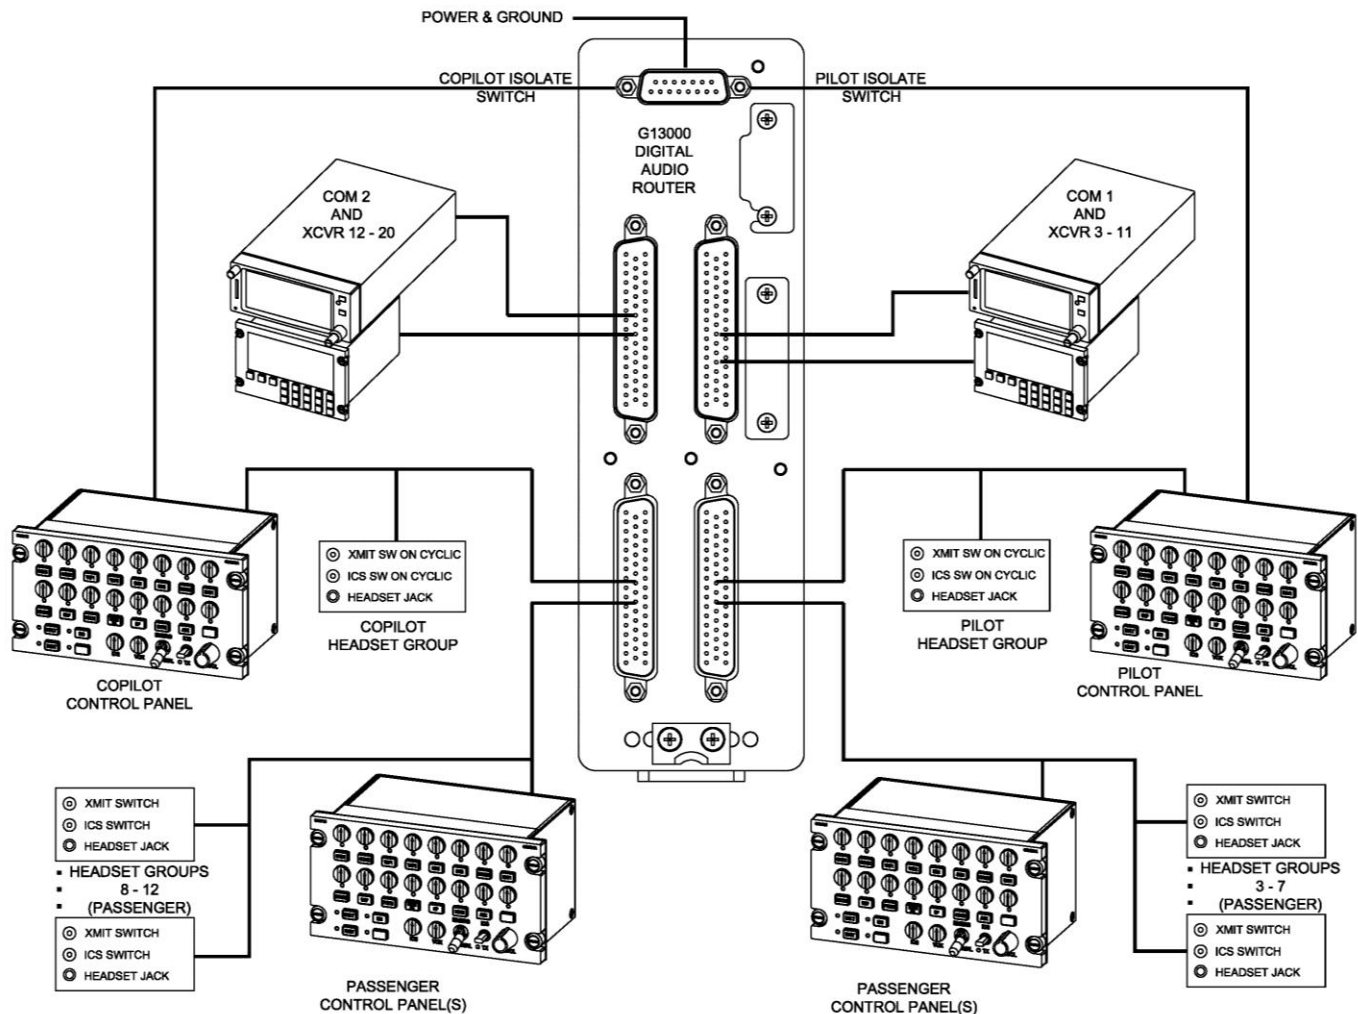

Figure 1
- 2.1. The schematic shown in Figure 1 is a typical system. The installer may, at the installer's discretion, add or remove radios, control panels, headset groups, or ICS and Transmit PTT switches as needed.